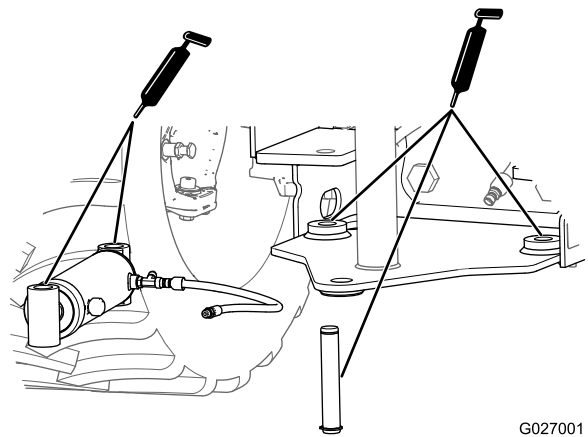

Figure 15
- Apply a coat of the specified grease to the pin (1-1/4 x 7-5/8 inch), inside diameter of the hole in the cylinder lug, inside diameter of the mounting frame bushing, and inside diameter of both mount fittings of the pivot cylinder (Figure 15).